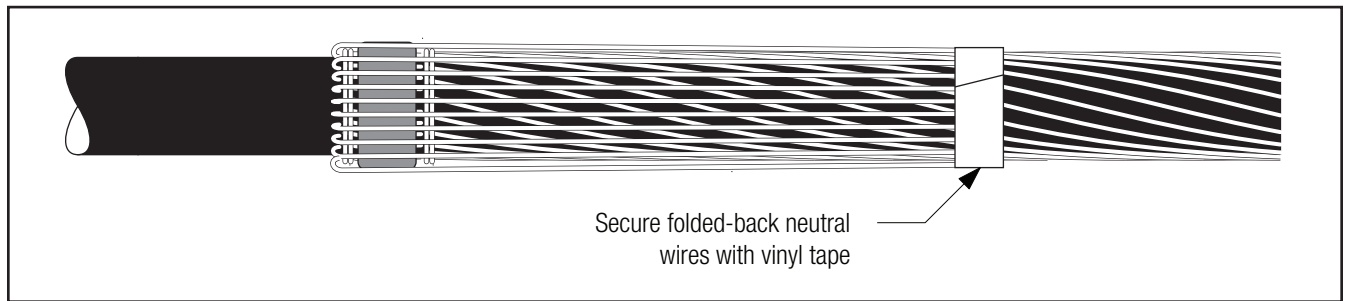

Figure 6
2.4.4 Fold neutrals over mastic seal and temporarily secure ends with vinyl tape (*Figure 6*).